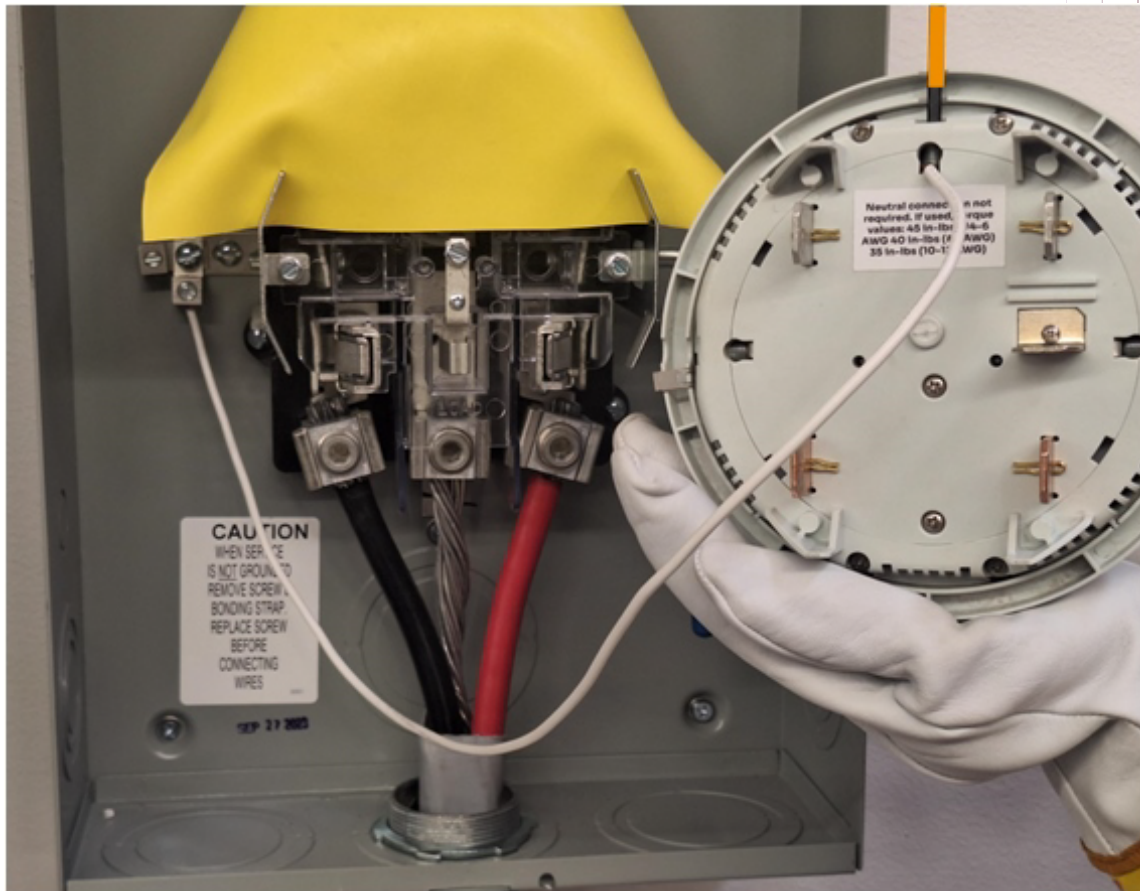

Figure 20. Field-Supplied Neutral Connection for Meter Sockets with 5th Jaw at 6 o'clock.
- c) For ring-type meter sockets, reinstall the meter socket cover, routing the neutral through the cover. Terminate the other end to the MSA neutral terminal at its 3, 9, or 12 o'clock position. Torque to 35 in-lbs. using a 5/32" hex bit. See Figure 20.